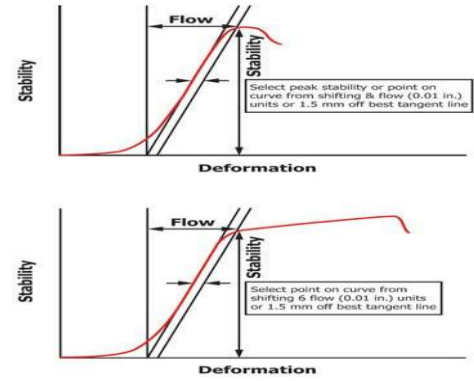

FIG. 1 Flow Determination for Two Types of Specimen Failure
behavior of the mixture, a less defined type of failure has been observed, as illustrated in Fig. 1. As an alternative method, Marshall stability can also be defined as the load obtained, when the rate of loading increase begins to decrease, such that the curve starts to become horizontal, as shown in the bottom graph of Fig. 1. The magnitude of Marshall Stability varies with aggregate type and grading and bitumen type, grade and amount. Various agencies have criteria for Marshall stability.
4.1.3 Marshall flow is a measure of deformation (elastic plus plastic) of the asphalt mix determined during the stability test. In both types of failure, the Marshall flow is the total Sample deformation from the point where the projected tangent of the linear part of the curve intersects the x-axis (deformation) to the point where the curve starts to become horizontal. As shown in Fig. 1, this latter point usually corresponds to the peak stability; however, as an alternative when the failure condition is not clearly defined, it can be selected as the point on the curve which is six flow points or 0.01 in. (1.5 mm) to the right of the tangent line. There is no ideal value but there are acceptable limits. If flow at the selected optimum binder content is above the upper limit, the mix is considered too plastic or unstable and if below the lower limit, it is considered too brittle.